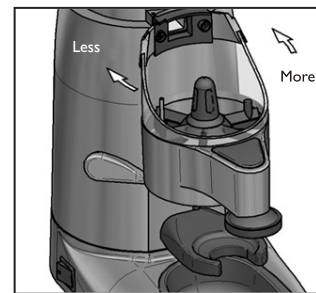

Fig. 5
The dispensers are factory adjusted to serve an amount of approximately 7 g. of ground coffee, but this quantity can be regulated between 6 and 10 g, as follows: Remove the ground coffee dispenser lid (8) and turn the dispensing regulation screw (9) clockwise to obtain a smaller amount of coffee, and counter-clockwise to obtain a larger amount. Once the quantity of each serving has been regulated, replace the ground coffee dispenser lid (8). Fig. 5.